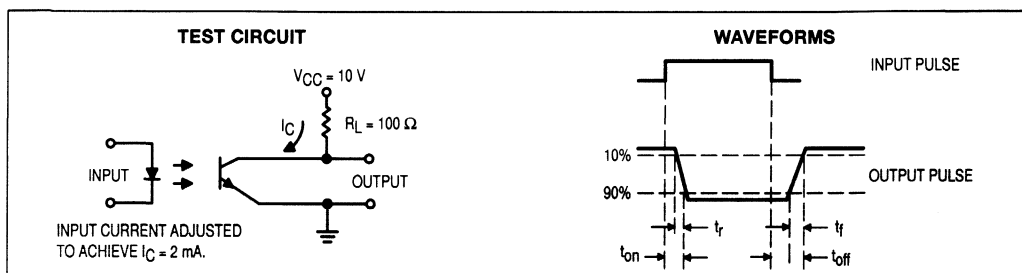

Figure 10. Switching Time Test Circuit and Waveforms
3. For test circuit setup and waveforms, refer to Figure 10.